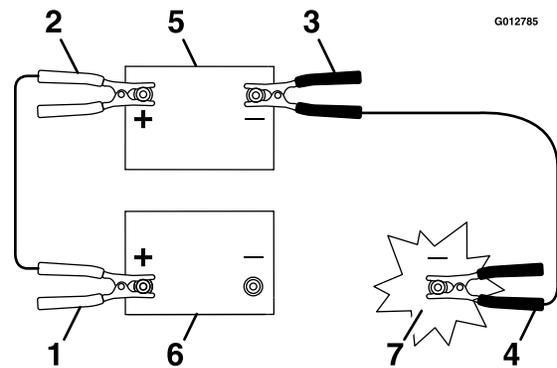

Figure 65
5. Connect the positive (+) cable to the positive (+) terminal of the discharged battery that is wired to the starter or solenoid as shown in Figure 65.